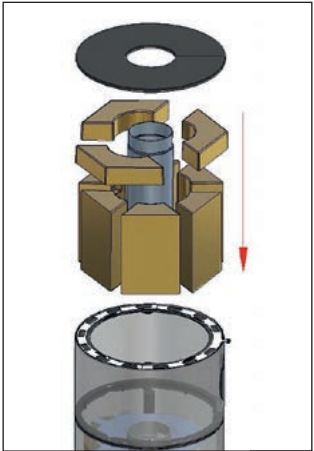

Fig. 6c
**Note:** With the ambiente a4/a4 RLU when the connection is changed, the rear lower storage stones must be replaced by the small storage stone (order no.: 1013340) (see Fig. 6c, 6d). A separate flue tube elbow must also be ordered for this stove dia. 150 mm (order no. 1013833).
Start by placing the six tall stones in position to form a ring. These have a recessed handle on the inside to facilitate assembly. Now place the three shallow stones in position to form a ring and replace the lid (Fig. 6c).